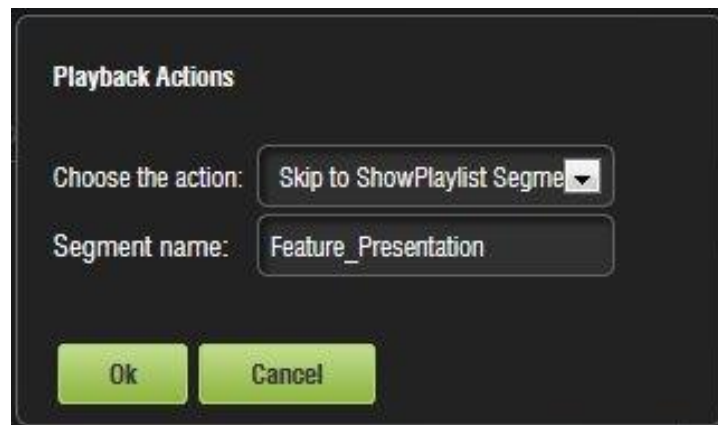

Figure 250: Segment Named
- Enter the **exact** name of the segment in the field that appears and click OK (Figure 250).